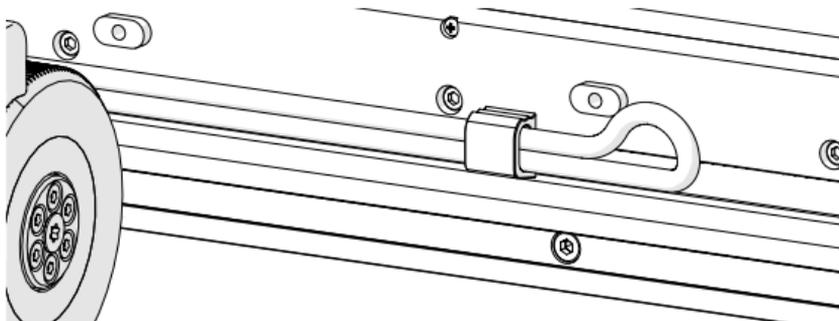

Fig. 52 - Route cable through the clip twice
4. The cable management can accommodate two cables to route excess cabling (*Fig. 52*).